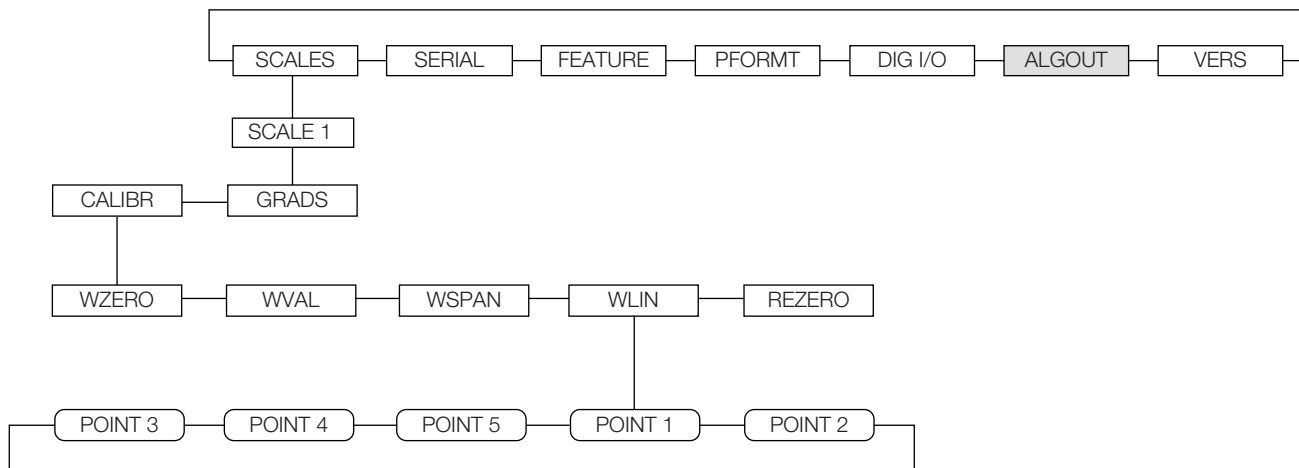
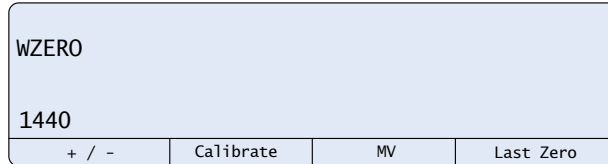

Figure 5-1. Calibration (CALIBR) Submenu
Figure 5-2. WZERO Calibration Display
The CALIBR submenu (within the SCALES menu) is used to calibrate the 720i (Figure 5-2).
2. With the **SCALES** menu highlighted, press the **Down** key then select the scale to be calibrated. Press **Down** again (**GRADS** parameter highlighted) then press **Left** to highlight the **CALIBR** submenu (Figure 5-1 on page 60). Press **Down** to go to zero calibration (**WZERO**) (Figure 5-2).